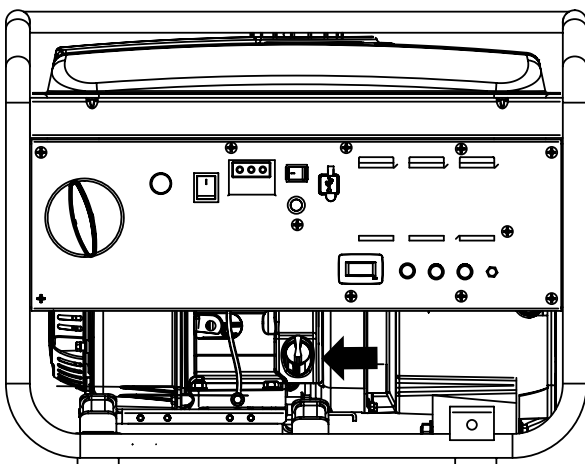

Figure 10: Oil fill plug/dipstick location
5. Remove the oil fill plug/dipstick (see Figure 10).